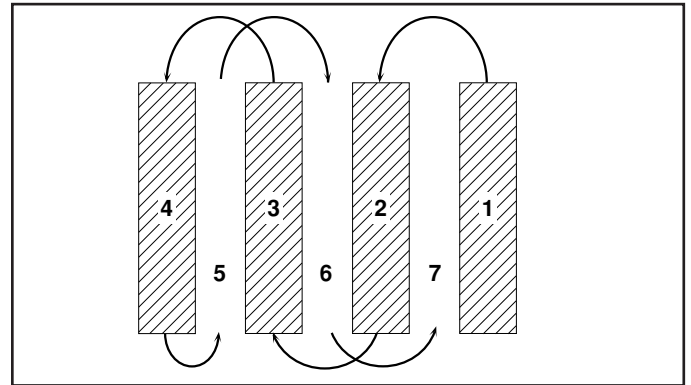

Fig. 9
- You will find tilling much easier if you leave a row untilled between passes. Then go back between tilled rows. (See Fig. 9) There are two reasons for doing this. First, wide turns are much easier to negotiate than about-faces. Second, the tiller won't be pulling itself, and you, toward the row next to it.